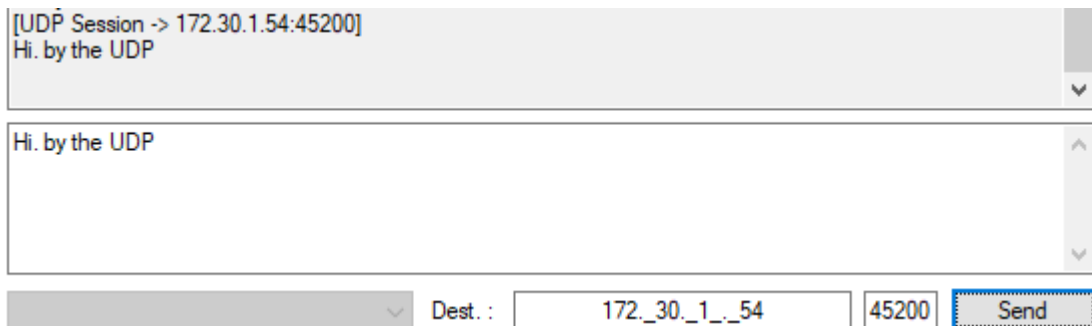

Figure 31: UDP Session Data Transfer
- **UDP Session:** Select the **UDP Session** checkbox > Enter the destination IP and port number > Type a message > Click the **Send** button (see Figure 31)